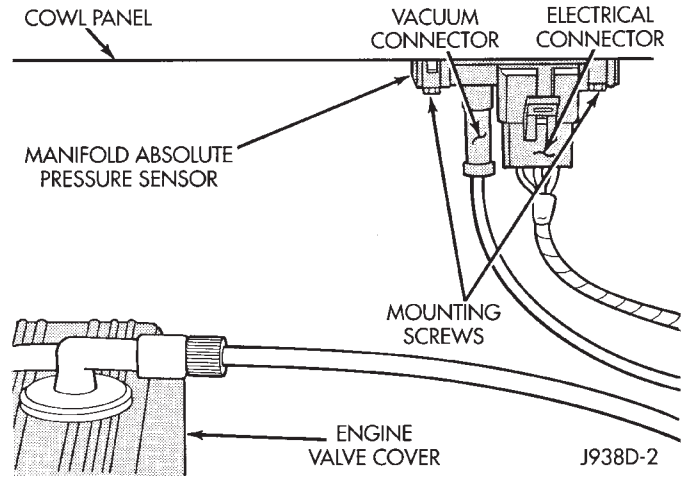

Fig. 9 MAP Sensor
The MAP sensor is located on the dash panel near the rear of the engine cylinder head cover (Fig. 9).
(1) Disconnect the MAP sensor electrical connector (Fig. 9).
(2) Disconnect the MAP sensor vacuum supply hose (Fig. 9).
(3) Remove the MAP sensor mounting screws and remove MAP sensor.